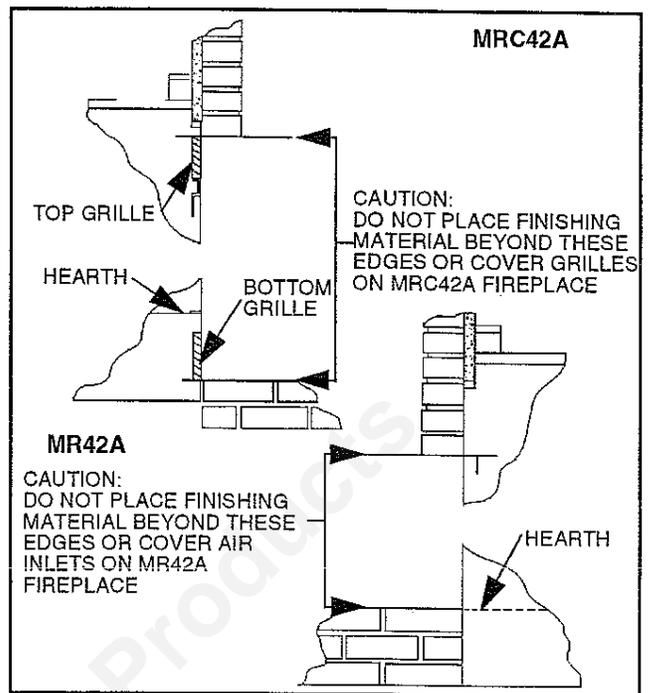

Fig. 21. Finishing front of fireplace.
**When finishing the fireplace, never obstruct or modify the air inlet/outlet grilles in any manner. (See Figs. 21.)**
**NOTE:** For fireplace installed at 45° to two (2) side walls (corner installation), no side wall protection is required.